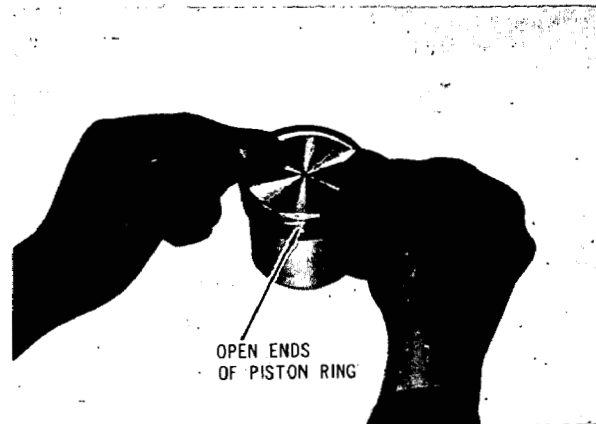

Fig. 6-3-10
• **PISTON RING** (See Fig. 6-3-10)
If an expander tool is not available, install rings by placing the open end of the ring on first land of piston. Spread ring only far enough to slip over piston and into correct groove, being careful not to distort ring. (Fig. 6-3-10)